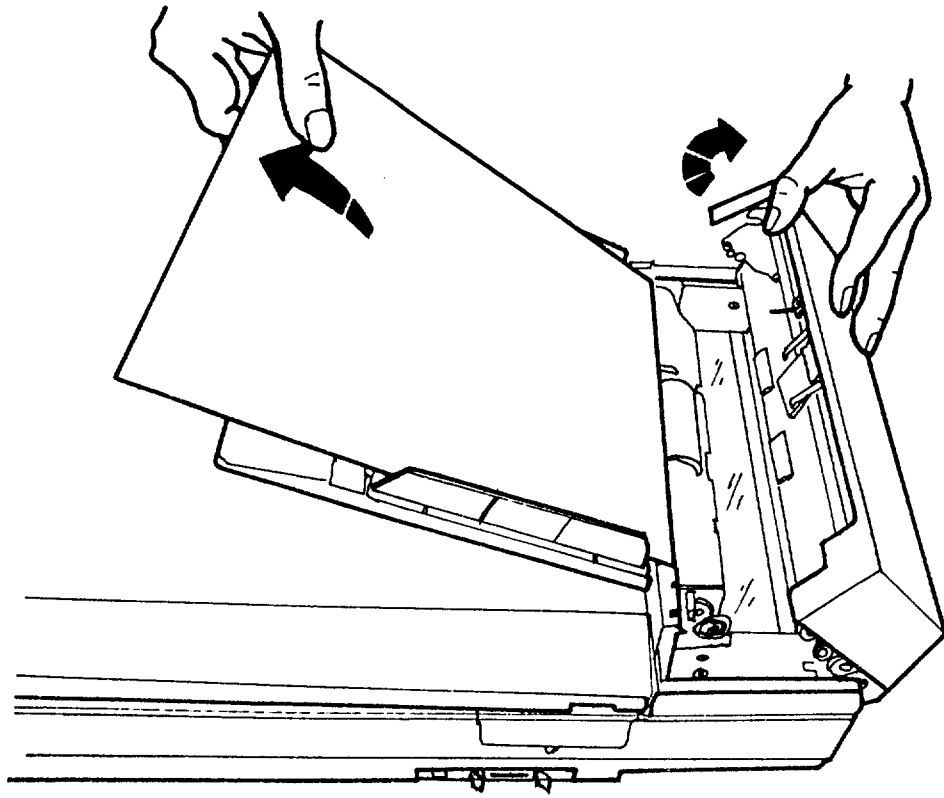

Figure 5.2 Paper Jammed: pull out the paper
5. Remove the jammed paper slowly as shown in Figure 5.2.